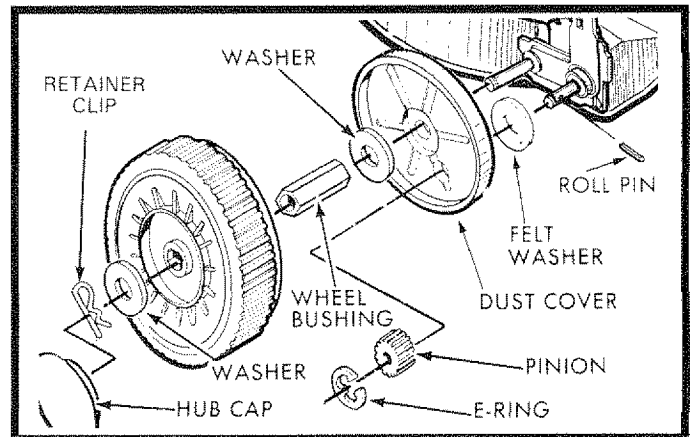

FIG. 14
- Take off Front Hubcaps, (2) Retainer Clips, (2) Washers, two (2) Front Wheels and two (2) Washers (See Fig. 14).
- Remove (2) E-Rings, (2) Pinions, (2) Roll Pins, (2) Felt Washers and (2) Dust Covers (See Fig. 14).